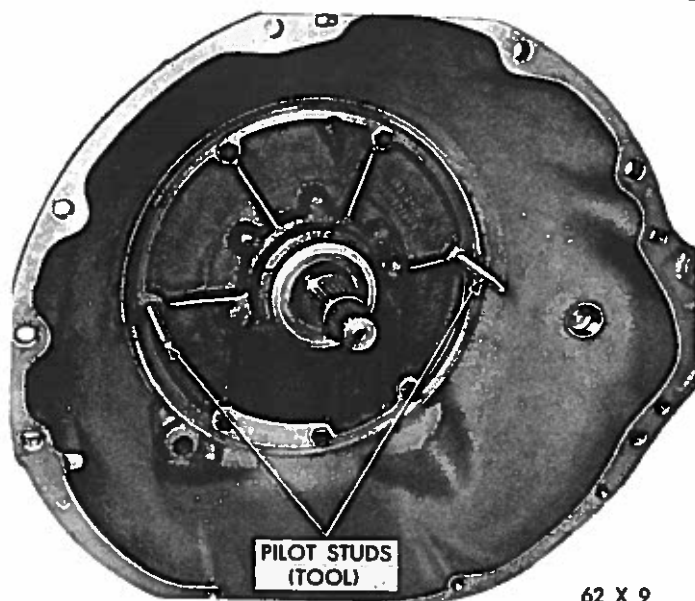

Fig. 75—Installing Front Pump and Reaction
(1) Screw two pilot studs, Tool C-3288 in front oil pump opening in the case (Fig. 75). Install a new gasket over the pilot studs.
(2) Place a new rubber seal ring in groove on outer flange of oil pump housing. Make sure seal ring is not twisted.
(3) Insert aligning Tool C-3881 through pump body and engage with inner rotor.
(4) Install the assembly in the case, tap lightly with a soft mallet if necessary. Place deflector over vent opening and install four pump body bolts, remove pilot studs and install remaining bolts. Snug bolts down evenly, then tighten to 150 inch-pounds torque.